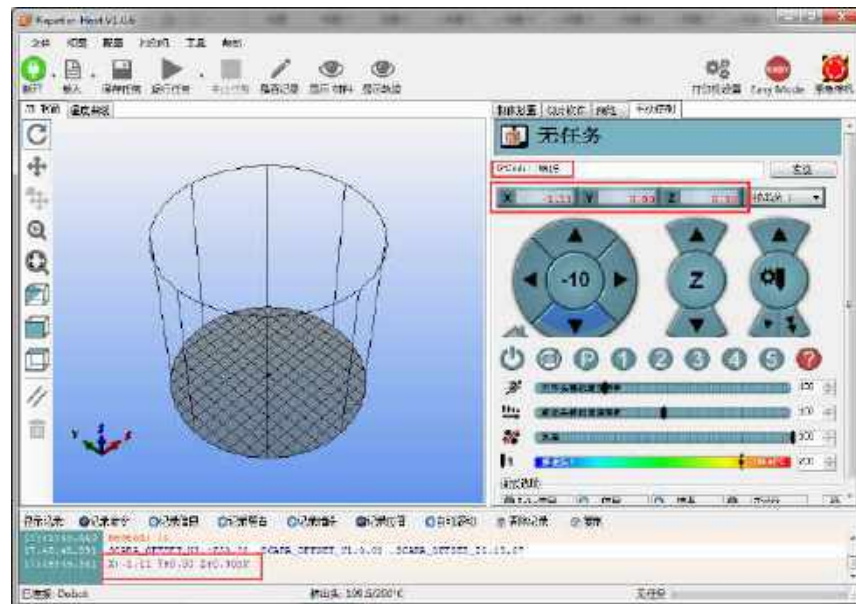

Figure 5.121 Input M415
2. Input command **M415** on the **G-Code** command window and press **Enter** to get the current coordinates, as shown in Figure 5.121.